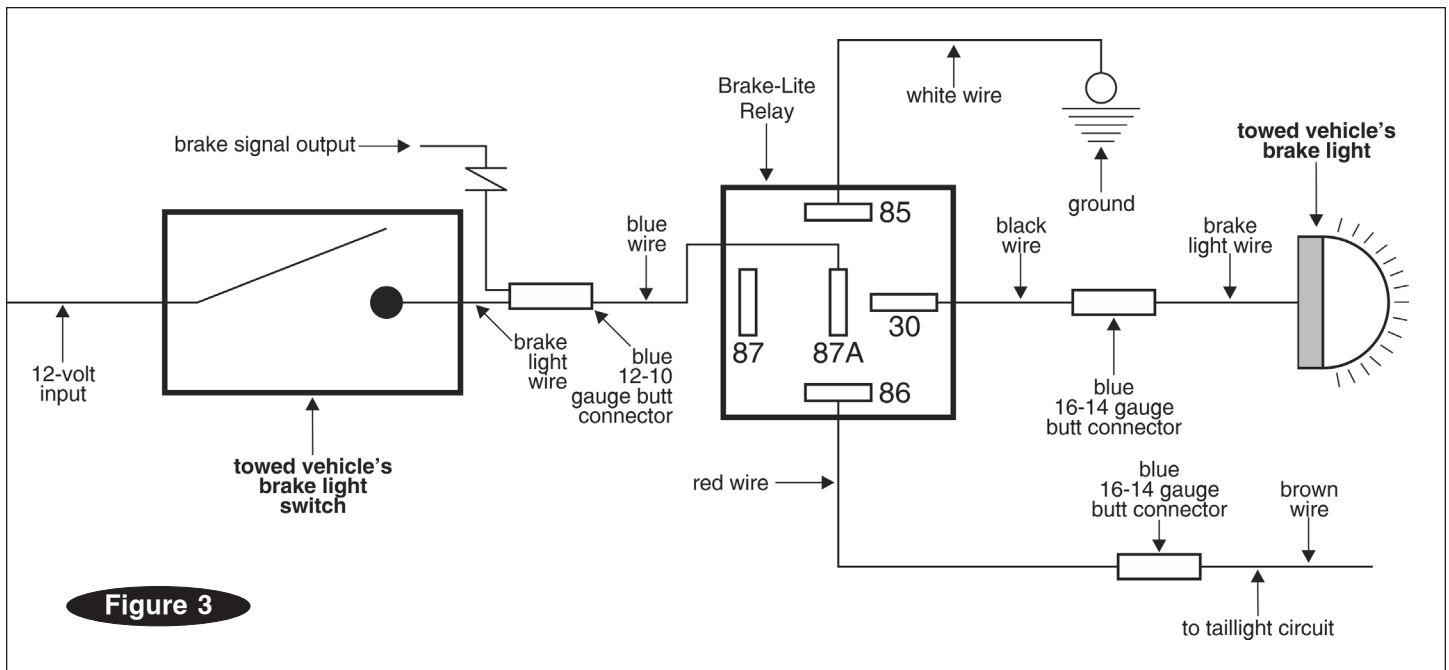

Figure 3
5. Attach this wire and the brake monitor wire from the supplemental braking system to the brake signal output (Figure 3).
6. With the attached blue 16-14 gauge butt connector, connect the black wire from the Brake-Lite Relay to the other end of the brake light wire (Figure 3).